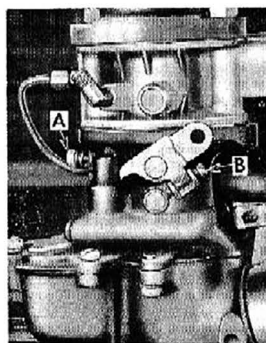

Fig. 34—Updraft Carburetor with Governor
**Maintenance—Updraft Carburetor.** Warm up engine to normal operating temperature and make sure choke and throttle knobs are in all the way. Adjust the engine speed to 450 to 500 RPM on conventional transmission models and 400-450 RPM with shift lever in "N" on Hydra-Matic models by turning the throttle stop screw "B" in or out as desired (fig. 34).